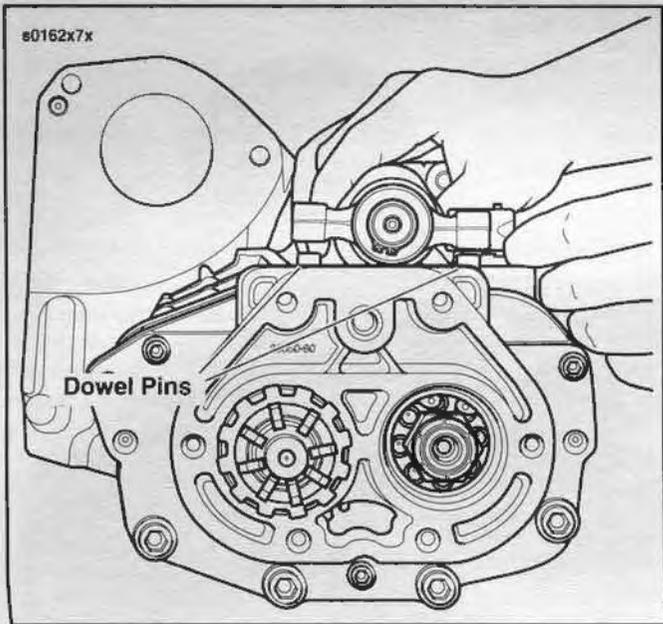

Figure 7-7. Shifter Cam Support Block Locating Dowel Pins
4. See Figure 7-7. Place shifter cam assembly on transmission case with shifter forks positioned in the slots.